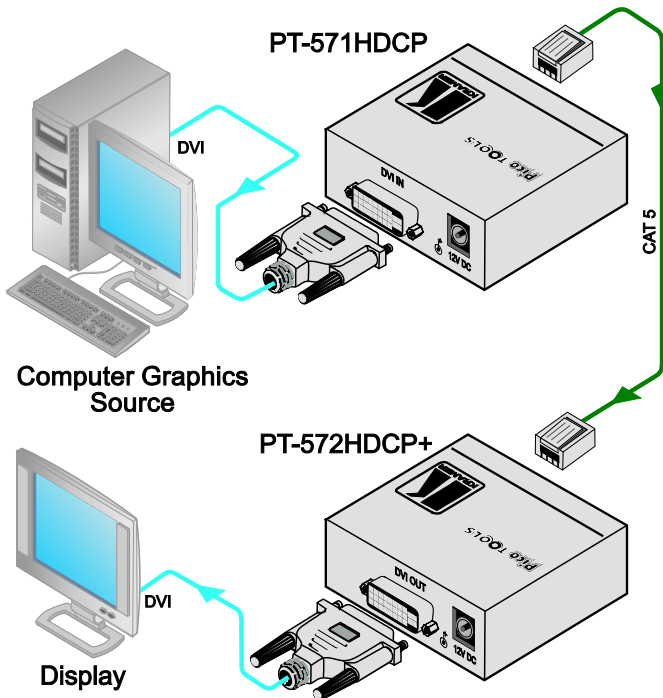

Figure 3: Connecting the PT-571HDCP/PT-572HDCP+ DVI Line Transmitter/Receiver
To connect the **PT-571HDCP** to the **PT-572HDCP+**, as illustrated in the example in Figure 3, do the following:
4. Connect the 12V DC power adapter to the power socket on the **PT-571HDCP** or the **PT-572 HDCP +** and connect the adapter to the mains electricity (not shown in Figure 3).